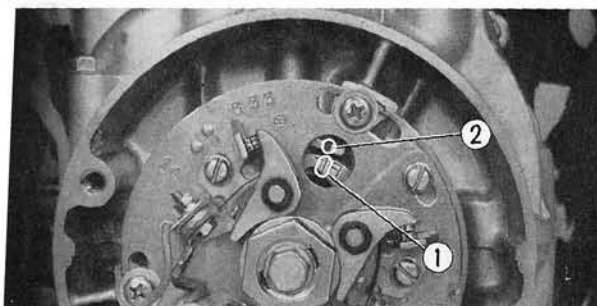

fig. 3-21 1 "T" 1,4 mark
1. Rotate the crankshaft and align the mark "T" 1,4 on the spark advancer with the matching mark as shown in Fig. 3-21.